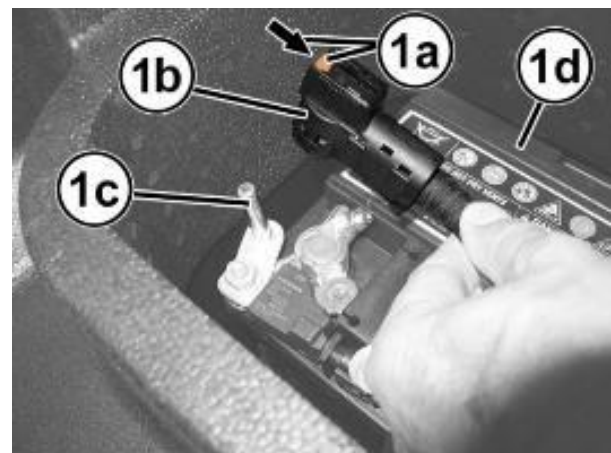

Figure 82 – Battery Negative Cable
9. Press the retainer (1a) and disconnect the terminal (1b) from the “negative dummy terminal” (1c) of the battery (1d) (Figure 82).
10. Move the terminal out of the way and isolate it (1b) (Figure 82).